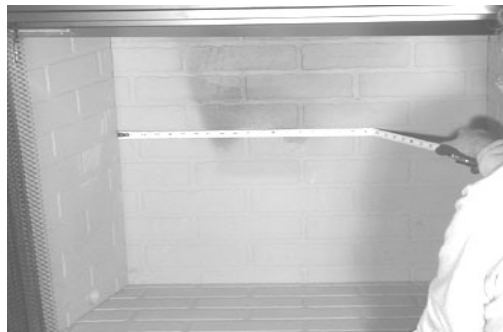

Figure 1 Measure Firebox
- Review the attached tags before proceeding. Ensure that all minimum fireplace dimension requirements are achieved using Table 3. See Figure 1. Ensure the gas type provided in the fireplace coincide with the gas type marked on the tag.